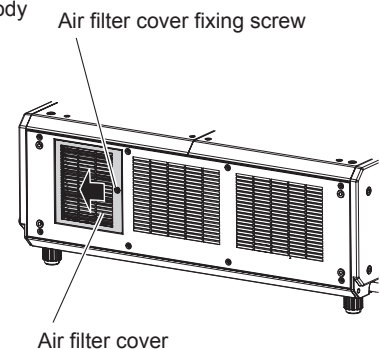

Fig. 2
- 2) **Slide the air filter cover toward the direction of the arrow to close (Fig. 2), and tighten the air filter cover fixing screw using a Phillips screwdriver.**